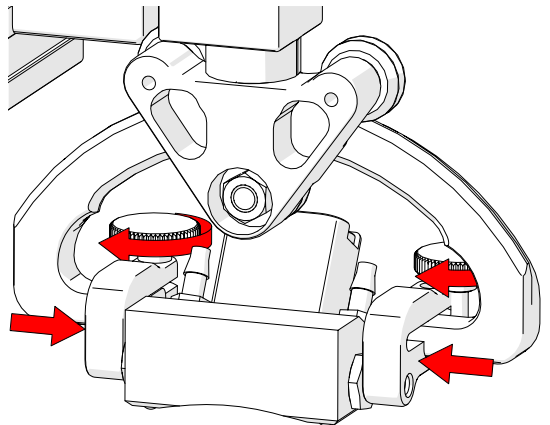

Fig. 47 - Clamp probe with arms and tighten knobs
6. Move the probe holder arms and insert the pivot buttons into the probe's pivot button holes while maintaining the probe's alignment relative to the yoke's pivot (Fig. 47).